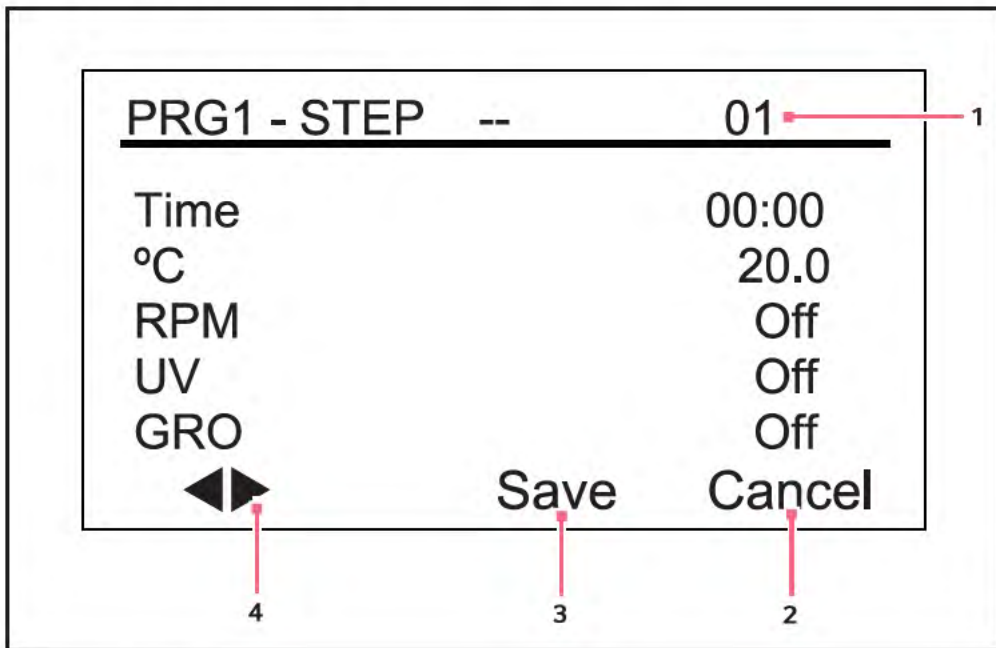

Fig. 9-11: Program 1, Step 1
2. Turn the knob until the field says *New*. Click the knob in to select this mode. The screen for Program 1 - Step 1 will open (see Fig. 9-11 on p. 61):
5. Turn the knob to highlight the °C temperature setting (20.0 in the sample screen, (see Fig. 9-11 on p. 61)), then click the knob in. The field will flash.